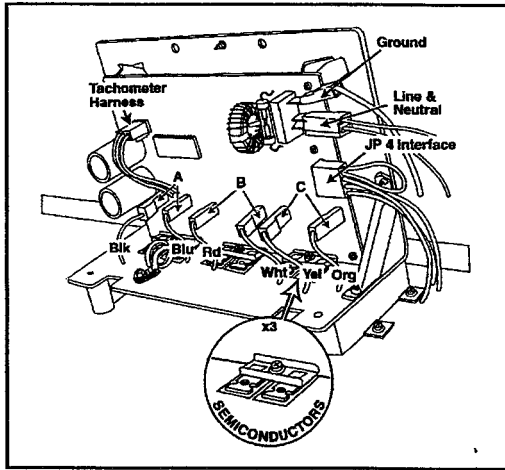

Figure 2-62
1. **Disconnect power to the machine & connect a power test cord to the Line & Neutral terminals of the Motor Control board. (*Figure 2-62*).**
- a. Check the 10 amp fuse located on the control board, either visually or with an ohm meter. If bad, replace motor control/wire harness assembly completely (**Figure 2-62**).
To gain access to the Motor Control Board terminals: (**Figure 2-62**)
6. Connect the power test cord to the Ground wire, Line 1 and Neutral wires. (Leave the JP4 connector off the board.) *(Figure 2-62).*
2. **Disconnect power to the machine** & connect a power test cord to the Line & Neutral terminals of the Motor Control board (*Figure 2-62, page 2-28*).